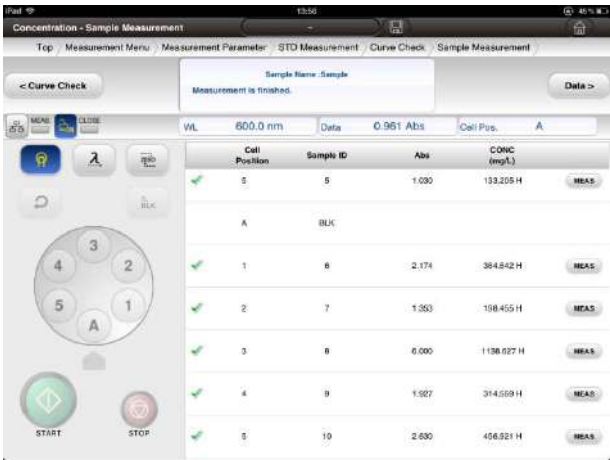

Fig. 4-22 Example of the Window After Sample Measurement (Sample Number: 10)
- (5) When measurement of the set number of samples is completed, the window shown in Fig. 4-22 will be show.